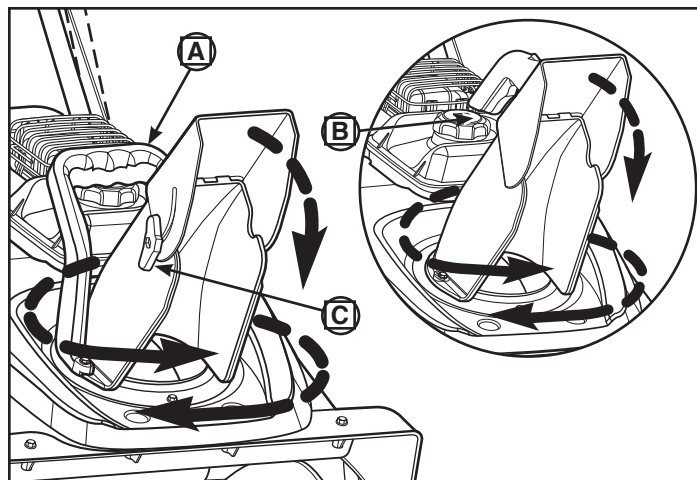

Figure 10
Grasp the chute handle (A, Figure 10) in the deflector handle and rotate the discharge chute to the left, right, or any forward position. A tension plate holds the chute in the desired position.
1. Squeeze and hold the button (B, Figure 10, inset).
Loosen the deflector wing knob (C, Figure 10) and adjust the deflector up or down to control the snow discharge height and distance. Tighten the wing knob securely to hold the desired deflector adjustment.
Squeeze the trigger (B, Figure 10, inset) in the deflector handle and adjust the deflector up or down to control the snow discharge height and distance. Release the trigger to hold the desired deflector adjustment.